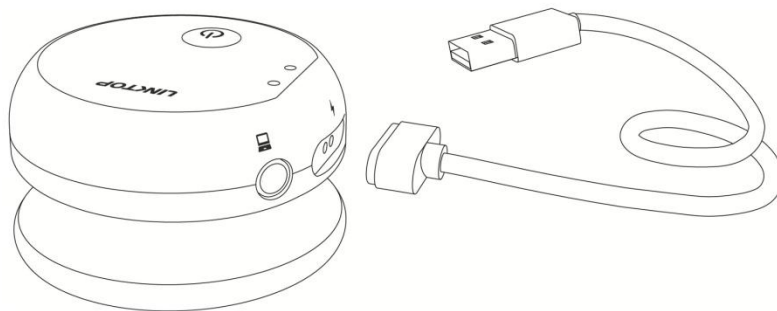

Figure 3. Charging demo
- (1) When using the stethoscope for the first time, long press the power button 3 seconds to power on.
- (2) If the battery of the device is low, it will not be able to start up. Connect the magnetic cable included in the set to the charging interface of the stethoscope to charge it (Figure 3) and remove it after it is fully charged.